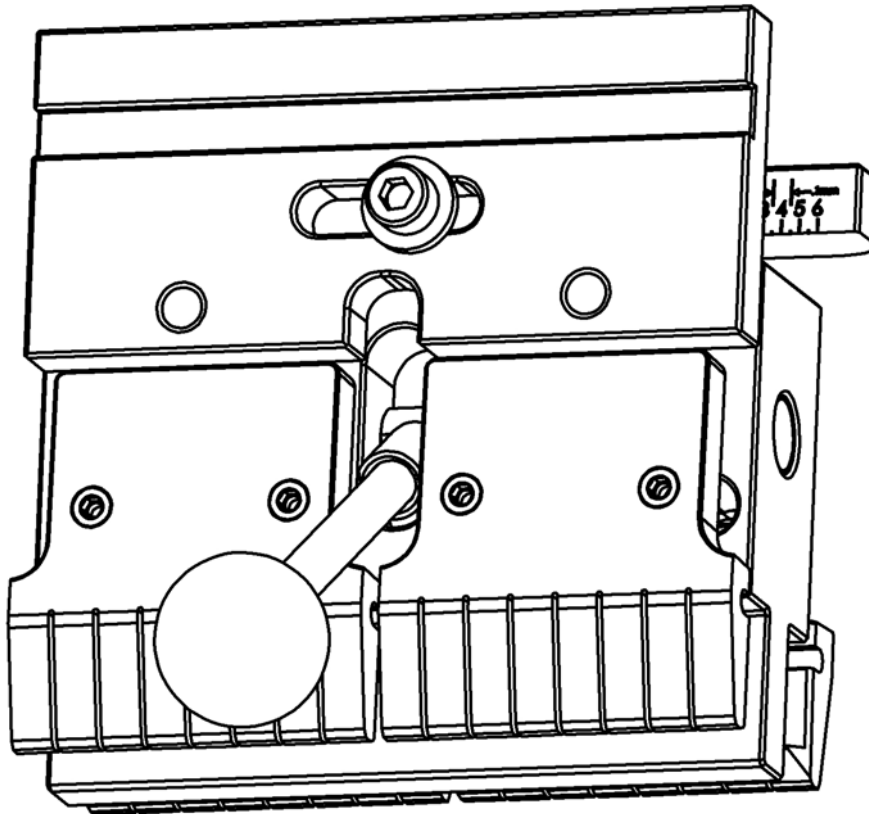

Fig. 1
1. The locking lever is made to snap easily into place. Simply insert the locking lever into the cam socket and push until it 'clicks' into place. (Fig. 1)